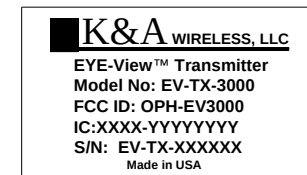

Figure 1. FCC label on every EV-TX-3000 series unit.
The EV-TX-3000 series transmitter is shown in Figure 1. The transmitter is packaged for integration inside a camera only. It has four (4) wires available - two wires (black - and red +) for power, two (2) wires for video (yellow + and purple -) and a channel change wire (ground for channel 2, open for channel 1). ***The system must be installed to operate at a minimum of 20 cm away from all persons.***